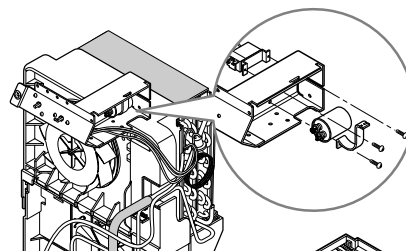

Figure 11
3. Remove two screws that fasten the thermostat from the control box. (See figure 11)